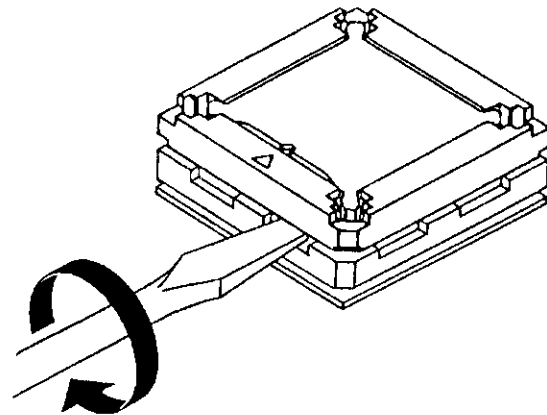

Figure 11
2. Turn the blade clockwise (in the direction of the chamfered corner), just far enough to disengage the latch. Be sure not to press down on the cover while prying it from the housing. See Figure 11.